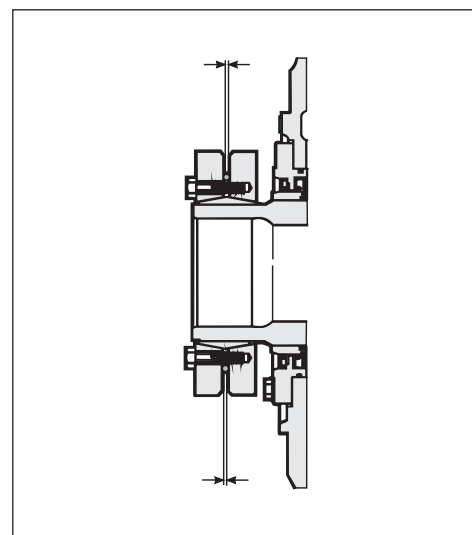

Fig. 3.14
- Slacken the shaft coupling screws gradually; see figure 3.14 and 3.14a. Each screw should be slacked only about a quarter of a turn each time. Thus tilting and jamming of the collars or thread stretching will be avoided. The screws must be slacked until the coupling ring is fully released.